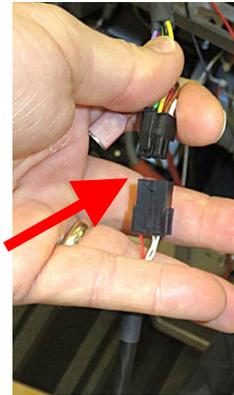

Figure 11
15. Disconnect the OQS harness connected to the adaptor cable in the previous step (see Figure 11).